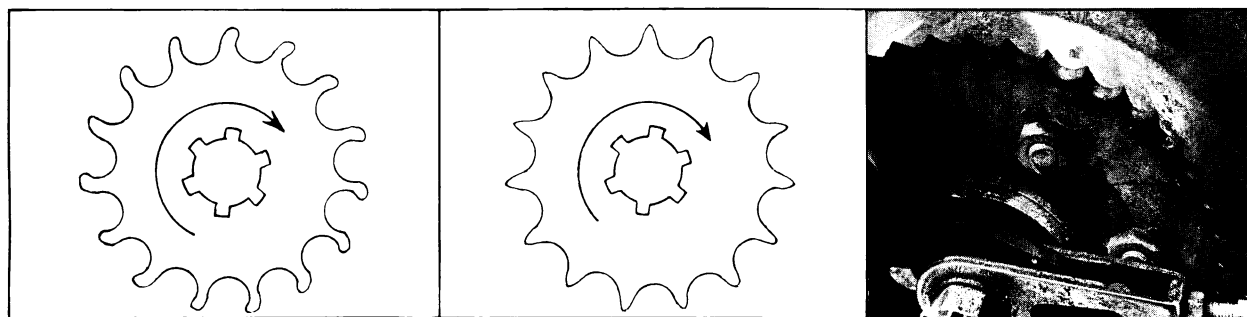

**Fig. 19-17** Checking for excessive chain wear (Yamaha International Corporation)
**Chain Wear Tests.** To test for a worn chain with the chain still installed on the bike, grasp the chain and try to pull it away from the rear sprocket. If you can see more than half of the sprocket tooth under the chain, start thinking about a new chain (Fig. 19-17). If the chain is already off the bike, lay it out full length on a clean flat surface and compress it end to end. Stretch the links, observing the amount of movement. If more than 1/4 inch of movement per foot of chain is noted, the chain should be replaced.